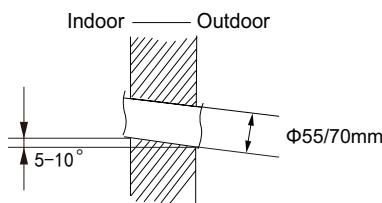

Fig.2
(2) Open a piping hole with the diameter of $\Phi 55(70)$ mm on the selected outlet pipe position. In order to drain smoothly, slant the piping hole on the wall slightly downward to the outdoor side with the gradient of $5-10^\circ$.(As show in Fig.2)